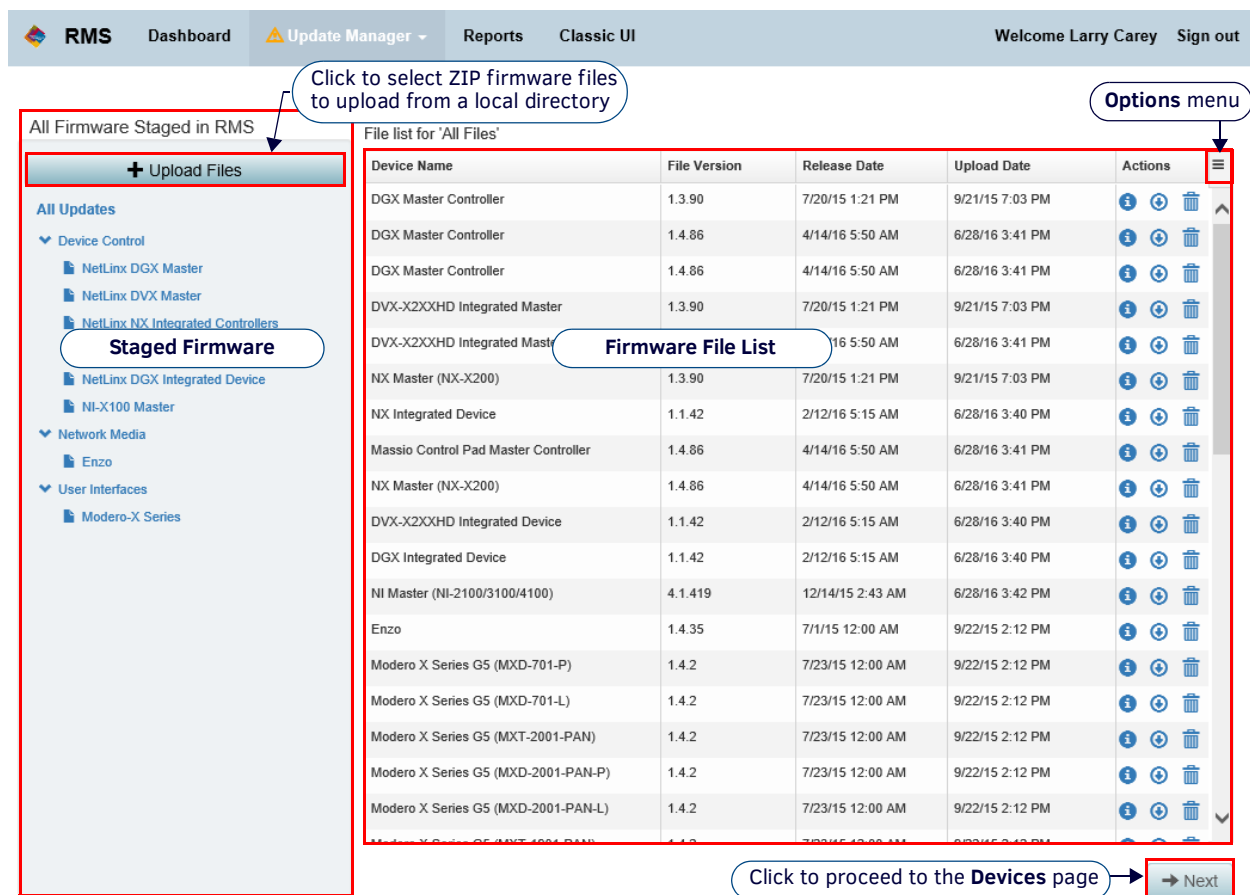

FIG. 28 File Manager (Files) page
- Select **File Manager** to open the *File Manager* page (see FIG. 28 on page 32).
The *Actions* column in the *Firmware Updates (Files)* page (FIG. 26 on page 29) and the *File Manager (Files)* page (FIG. 28 on page 32) contains three icons that provide the following file functions:
Select **Update Manager > File Manager** to open the *File Manager (Files)* page. The options in this page provide the ability to reload existing firmware, downgrade firmware, and upload firmware files from a local directory to the RMS Enterprise server. This page consists of two windows: the *Staged Firmware* window, and the *Firmware File List* window (FIG. 28):